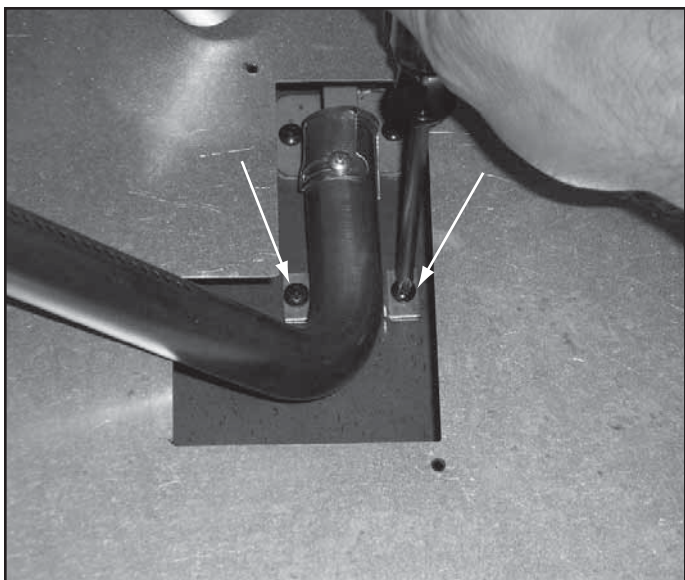

Figure 15.4 Remove Outside Burner Tubes
- Remove three outside burner tubes by removing two screws on each tube. See Figure 15.4.